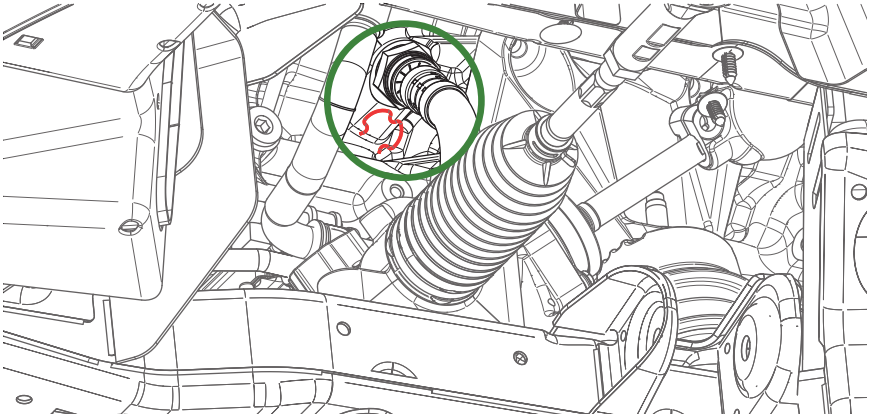

Figure 9 - Removing the Clover-Like Metal Clip
5. Remove the clover-shaped retaining clip from the large engine coolant fitting using a pic or two flat screwdrivers, circled **green** in Figure 9.